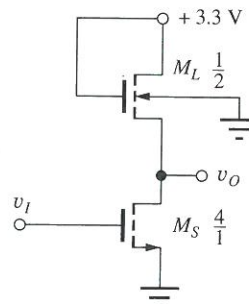

Figure P6.59
- 6.59. Find V_H , V_L , and the power dissipation (for $v_O = V_L$) for the logic inverter with the saturated load in Fig. P6.59. Assume $\gamma = 0$.
- 6.61. Suppose there is a 30 percent tolerance on the value of K'_n in the inverter in Fig. P6.59. What are the worst-case values of V_H , V_L and the power in the circuit? Assume the two transistors in the circuit are matched (i.e., they have the same value of K'_n).
- 6.62. A manufacturing problem caused $V_{TN} = 0.8$ V instead of 0.6 V in the inverter in Fig. P6.59. What are the new values of V_H , V_L , and power dissipation? (c) Repeat for $V_{TN} = 0.4$ V.
- *6.63. What are the noise margins for the circuit in Fig. P6.59?
- 6.64. (a) Find V_H , V_L , and the power dissipation (for $v_O = V_L$) for the logic inverter with the saturated load in Fig. P6.59 if the transistor sizes are changed
- 6.75. Find the slope of the voltage transfer characteristic (i.e., the voltage gain) at the input voltage for which $v_O = v_I$ in the inverter in Fig. P6.59.